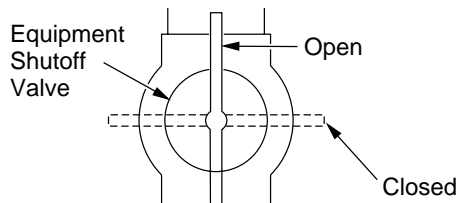

Figure 33 - Equipment Shutoff Valve
1. Close equipment shutoff valve (see Figure 33).
1. Open equipment shutoff valve (see Figure 33).